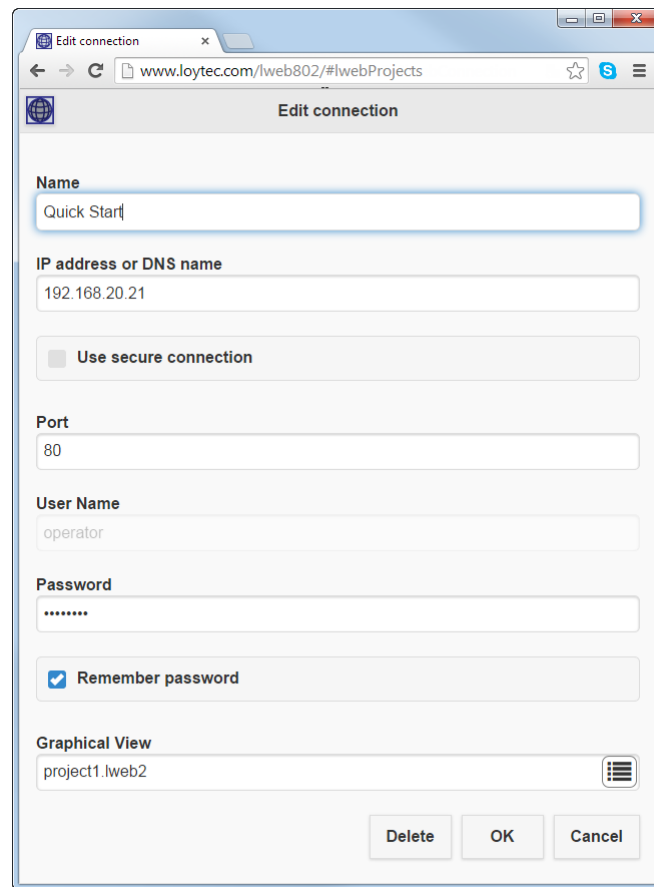

Figure 42: LWEB-802 new/edit connection
- **Add new project:** Click on the entry **New project...** to add a new project, The **New Connection** dialog is opened (see Figure 42).